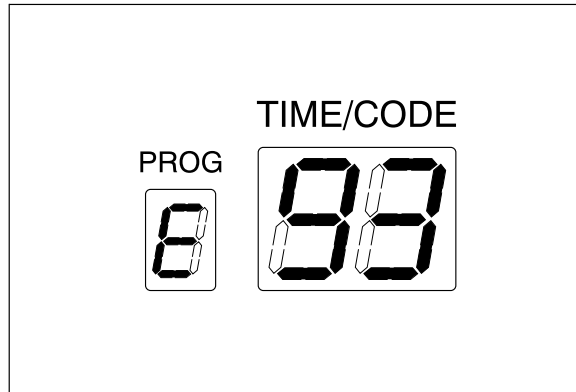

Figure 7.82
7. Drain the alcohol in the pipe by performing the alcohol flush process on the subcontrol panel. Check that the fluids are drained from the cap. Wait until the error code [E93] is displayed and the process ends (see Figure 7.82).